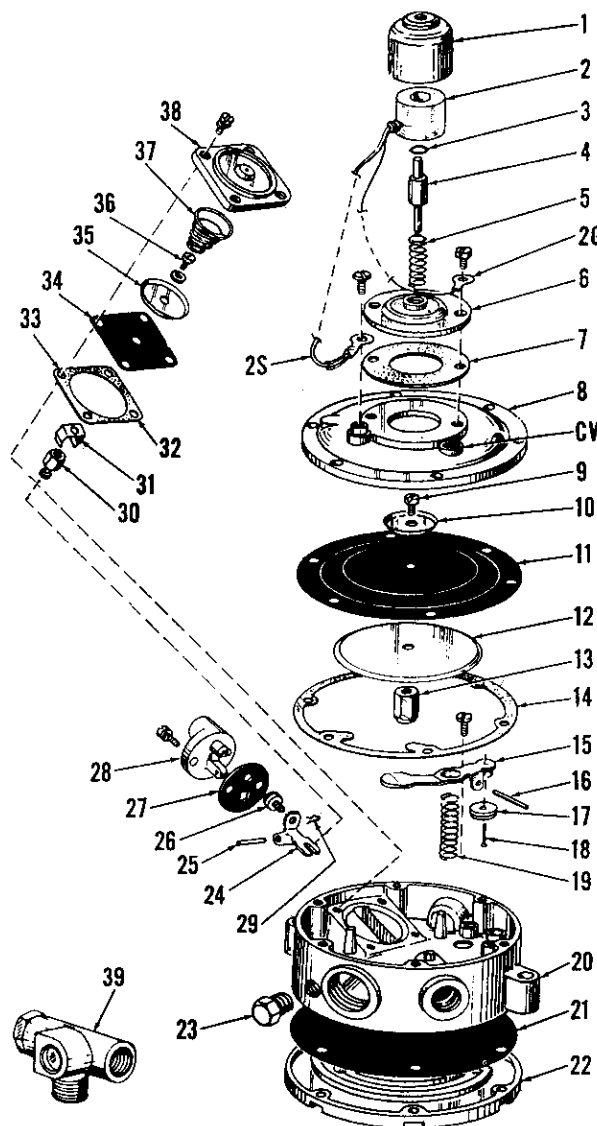

Fig. 109—Exploded view of fuel filter-fuel-lock assembly. Ground wire (G) is connected to plunger body (4) by screw (1).
Fig. 106—Exploded view of the LP-Gas system used on model 4000 tractor. Refer to Fig. 109 for exploded view of filter-fuellock assembly (13); to Fig. 107 for exploded view of carburetor (31) and to Fig. 110 for exploded view of converter (vaporizer-regulator) (35).
Refer to exploded view of unit in Fig. 109. To clean the filter, remove the screws retaining bowl (12) to housing (8), then remove bowl and filter.